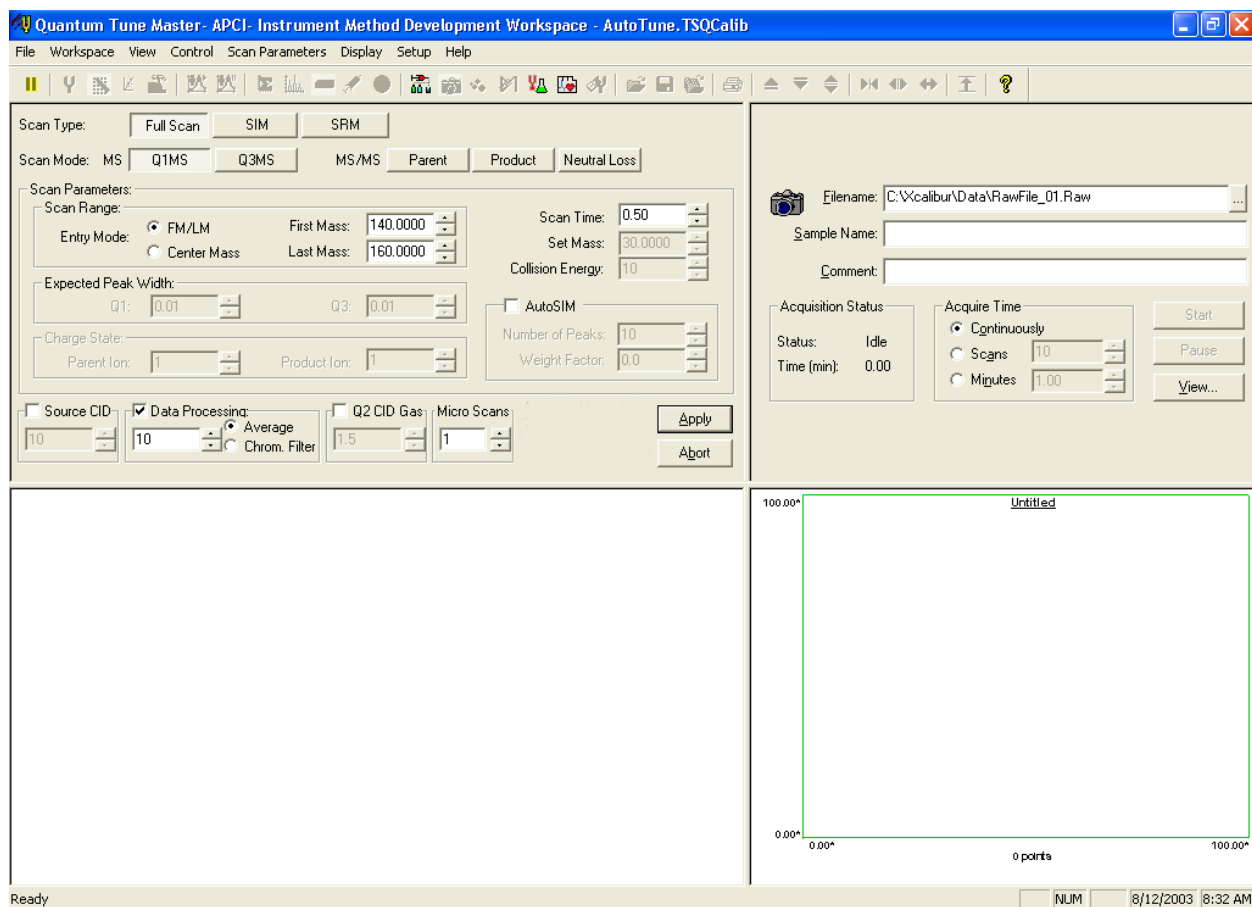

Figure 2-1. Tune Master window – Instrument Method Development workspace, showing the mass spectrometer in the Standby mode
3. If the mass spectrometer is On, click on the On/Standby button to place the mass spectrometer in Standby mode. When the mass spectrometer is in Standby, the system turns off the ion source sheath gas, auxiliary gas, and high voltage. See Figure 2-1.